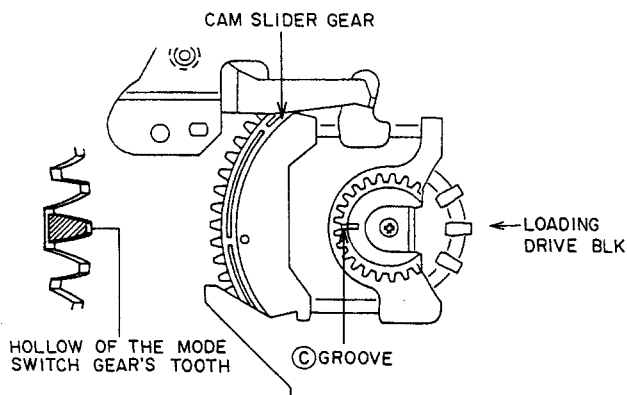

Fig. 3-15
2) Attach the MODE SELECT SWITCH to the LOADING DRIVE BLK and align the hollow of the gear's tooth (reverse side of the Ⓒ mark) with the Ⓒ groove of the CAM SLIDER GEAR as shown in Fig. 3-15.